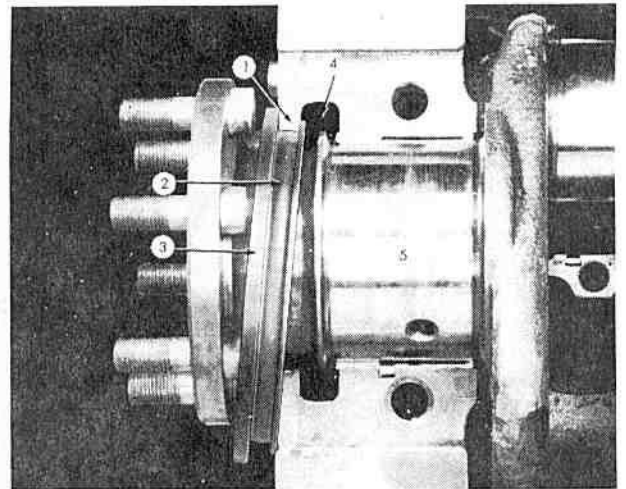
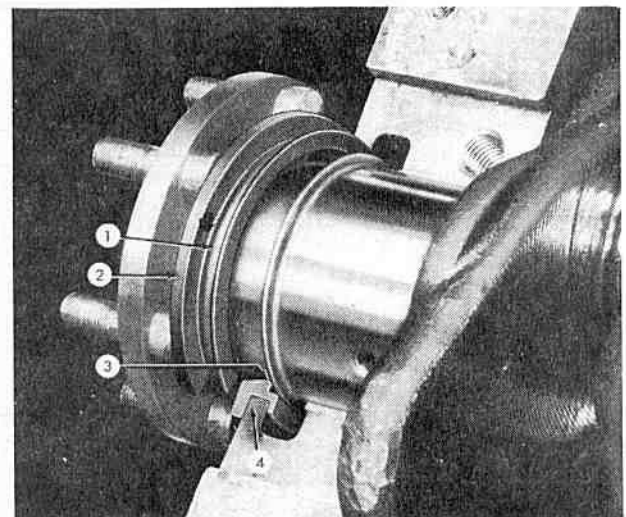

FIG. 382
FIG. 383
Dip the ends of the seal in liquid soap and spread the liquid soap throughout the inside of the outer groove. Spread the seal (3, Fig. 382) just enough to permit aligning one end of it with the crankcase rear flange (1) and insert the seal as shown in the illustration. Carefully work the seal around the crankshaft until the end emerges on the opposite side. See Fig. 383. Now align the seal, reverse the direction of